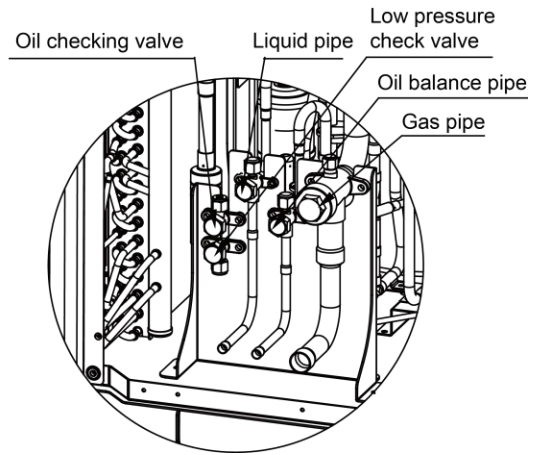

Fig.4.4.2
- (2) When there are more than 2 outdoor units, air purging from the nozzle located on the oil balance valve. Confirm outdoor oil balance valves are closed See Fig. 4.4.2.